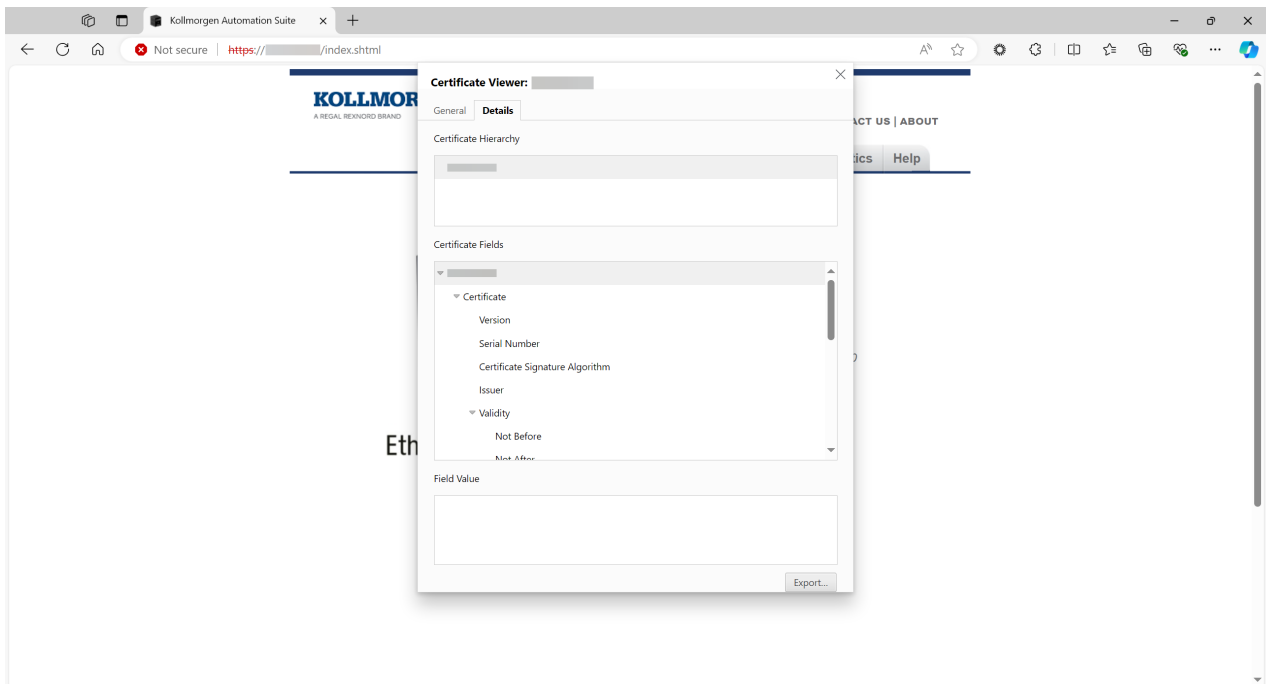

Figure 9-30: Details tab with Export button.
17. Click the **Details** tab. (Figure 9-30)